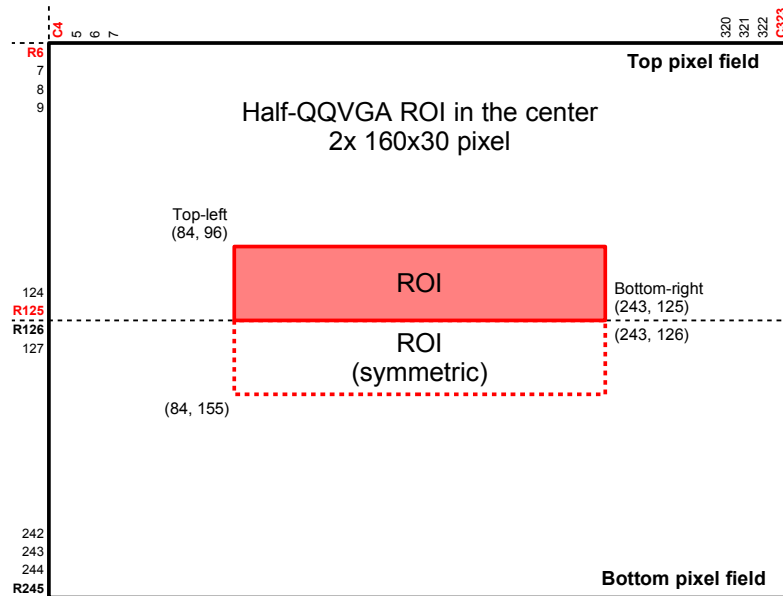

Figure 32: ROI for Half-QQVGA: 2 x 160 x 30 pixel
- 8-bit mode: Transfers the 8 MSB bits of the pixel data with 1x DCLK. Refer to Table 15 and Figure 32.
Note: The epc635 emulation is detailed in Figure 32 and chapter 11.4.3.